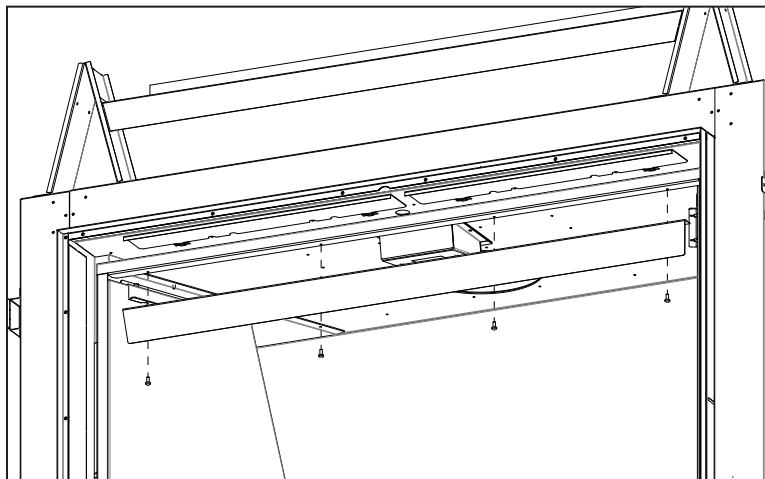

Figure 72: Light Deflector Removal
- Step 2.** Remove light deflector by removing the four (4) retaining T-20 screws (see Figure 72).